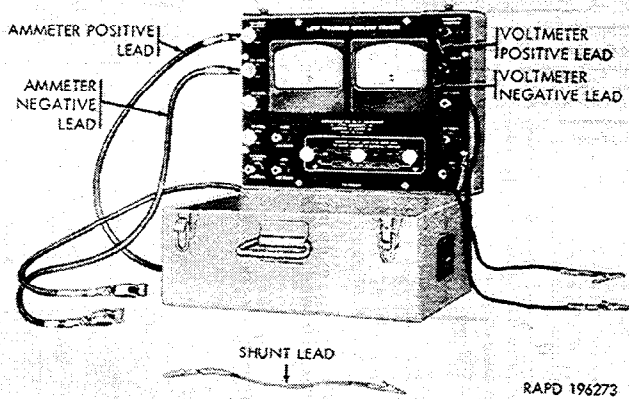

Figure 2-7. Low voltage circuit tester.
c. Test Equipment. The test procedures covered in this section are based on the use of low voltage circuit tester (fig. 2-7), carbon pile resistor and field rheostat (fig. 2-8) and adapter Set (fig. 2-9). Test procedures used may also be made on the vehicle using any suitable voltmeter, ammeter, or ohmmeter having the required electrical range.